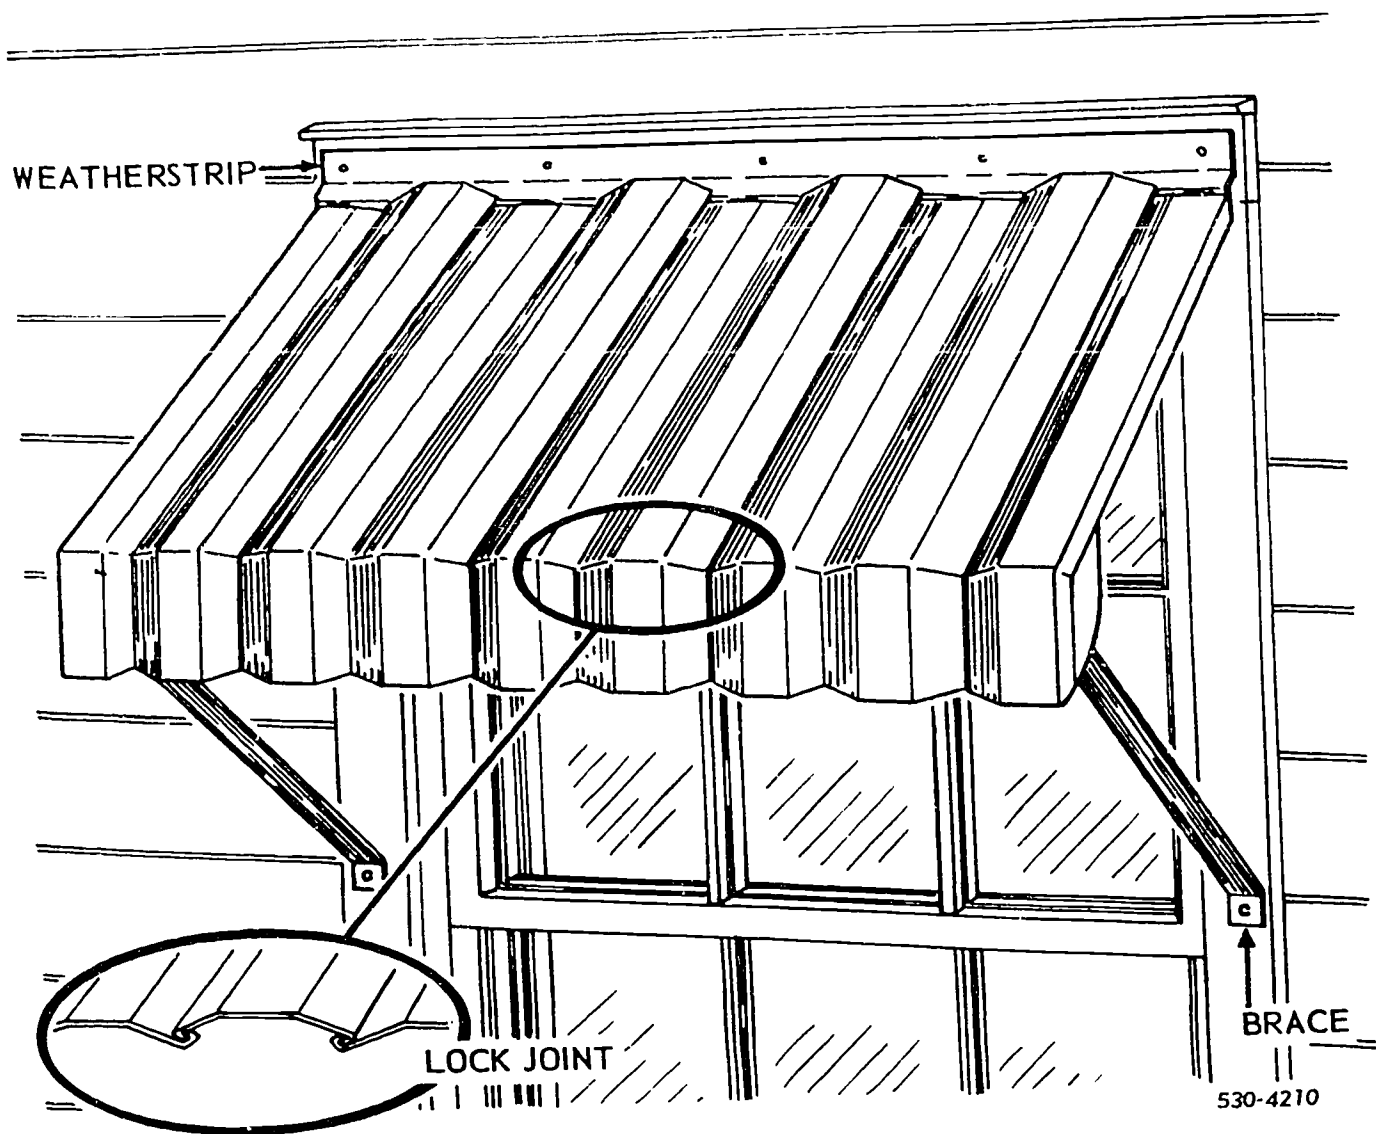

Figure 2-1. Metal awning over a window.
Metal awnings are usually installed over windows to keep sunlight out or to prevent weather damage to the screen or glass. It is not likely that you will make awnings, because they are usually purchased as factory-made assemblies. Your job usually consists of installation and repair. Awnings (fig. 2-1) are usually installed over windows, and are usually made of interlocking aluminum panels. The brace on an awning can be round tubing, square tubing, or angle iron. Braces are adaptable for different installations.
**Installation.** To install the awning over a window, as shown in figure 2-1, first locate the center of the weatherstrip and the window (so that the awning will extend the same distance on each side of the window). Locate the holes for the screws by marking them while holding the strip in place, level with the window. After drilling the holes for the weatherstrip, apply calking compound to the back side of the weatherstrip and fasten the strip to the wall (with screws). Attach the awning to the weatherstrip (with nuts and bolts); then drill holes for the braces and fasten the braces to the wall (with screws).
Suppose that the awning in figure 2-1 has been damaged upon inspection, you find that one brace and one end panel need replacing. Remove the awning and take it to the shop. To do this, remove the screws that anchor it to the wall. As the awning is being taken down, determine whether any screws will need to be replaced during reinstallation. Once the awning is at the shop, disassemble the parts that should be replaced and take the necessary measurements.